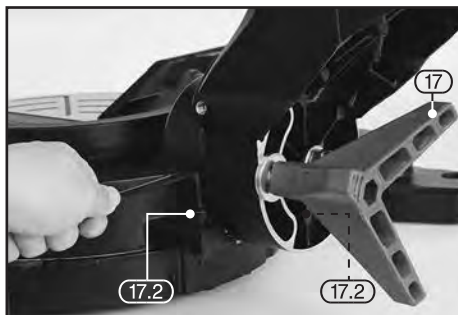

FIG.17
8.11 SETTING THE 45° BEVEL ANGLES TO THE BLADE – FIG.17